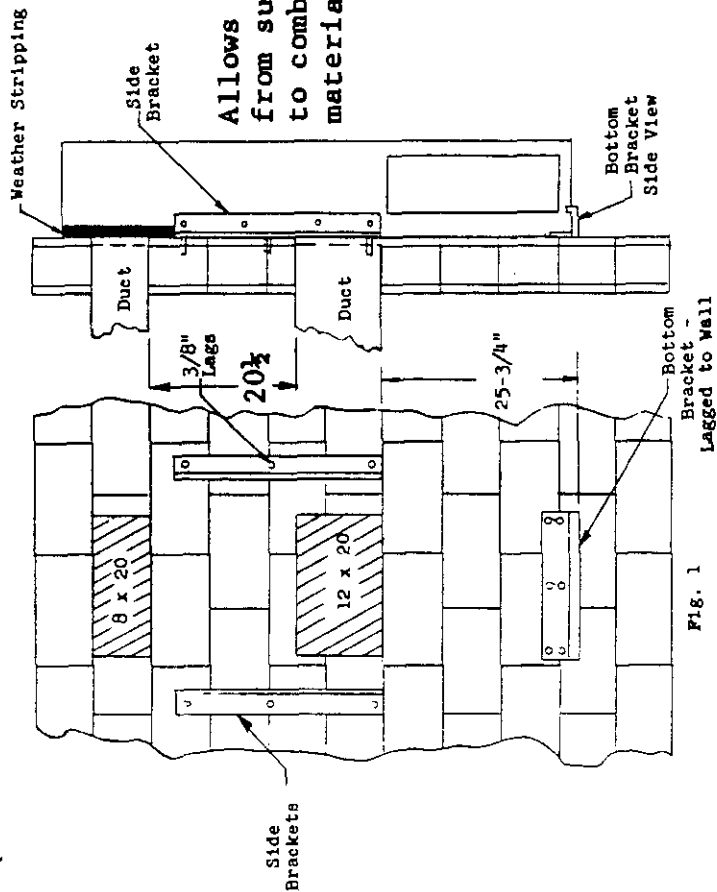

FIG. 1
1. Two holes, the size of the supply and return air openings must be cut through the wall as shown in Fig. 1, 2, 3, 4, 5 and 6.
These units are secured by wall mounting brackets which secure the unit to the outside wall surface at both sides and at the bottom. (Fig. 1).